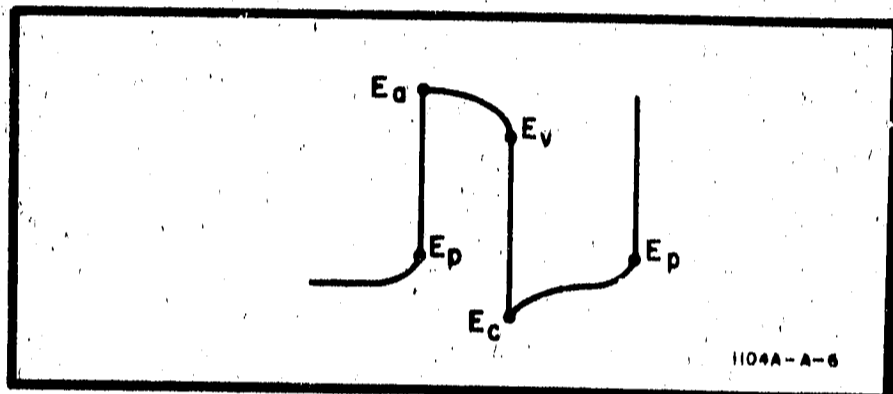

Figure 9. Typical T. D. Waveform
25. When the power is applied, the current into the tunnel diode begins to rise toward I_b . When it reaches I_p , it encounters the negative resistance region where increasing voltage demands decreasing current. Since the Model 1104A supplies a constant current, and the current through L5 cannot increase instantly, T. D. voltage (E) jumps to E_a . Not as the current through L5 begins to increase, the current through the tunnel diode must decrease toward I_b (since total current is constant) and E begins to diminish toward E_b . When E reaches E_c , it again encounters the negative resistance region where decreasing voltage demands increasing current. Since total current is fixed and the current through L5 cannot decrease instantly, E jumps to E_c and the cycle repeats. Figure 9 shows a typical waveform across the tunnel diode. The tunnel diode waveform is differentiated by C12 and coupled to the TRIGGER OUTPUT connector. The RLC network maintains 50-ohm impedance for all frequencies present in the circuit.